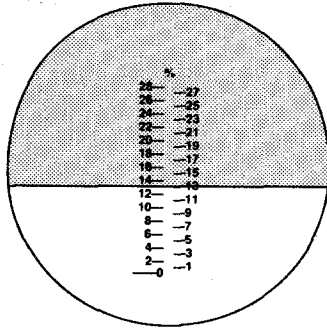

Fig. 2
1. With cover plate open, carefully clean the prism (1) with soft cotton cloth. Avoid scratching the surfaces.
2. Aim the front end of the refractometer toward a light source and rotate the eyepiece (5) to obtain clearest focus.
- A - Open the cover plate (2).
- B - Apply a few drops of pure distilled water on to prism platform (1).
- C - Close cover plate (2).
- D - Rotate calibration screw (3) so that the dark and light boundary line coincides exactly with the 0% line on the scale.
- The boundary line of light and dark will indicate the percent salt of test sample as per fig. 2 and 3 below which read 13% and 25% respectively.